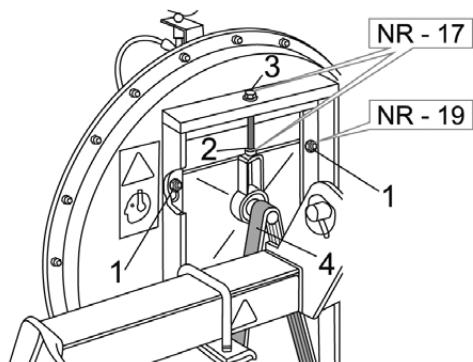

Fig. 38
The impeller (Fig 38) creates a vacuum inside the distributors, so that the seeds are aspirated onto the holes in the plate. The tensioning and the good condition of the belt (4, Fig 38) have a vital importance for the operation of the impeller and the sucess of the sowing. The belt is correctly tensioned whem it does not yield under the pressure of a hand.
- Loosen the screws(Fig.38 no:1)
- Loosen the nut (Fig.38 no:2)
- Tension the belt by tightening the screws (Fig.38 no:3)